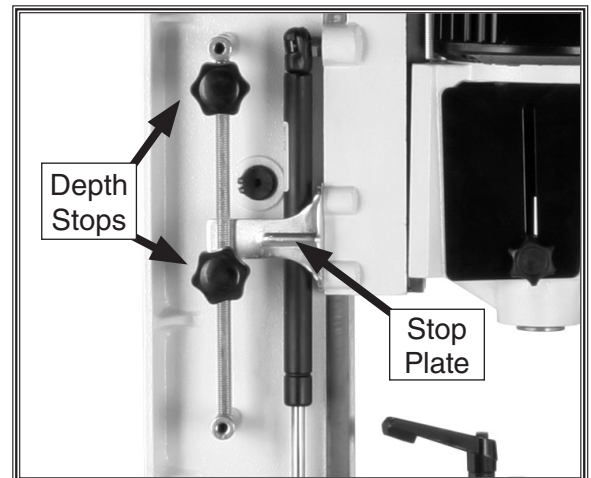

Figure 12. Depth stop adjustment.
2. Tighten the lower depth stop against the bottom of the stop plate as shown in Figure 12.